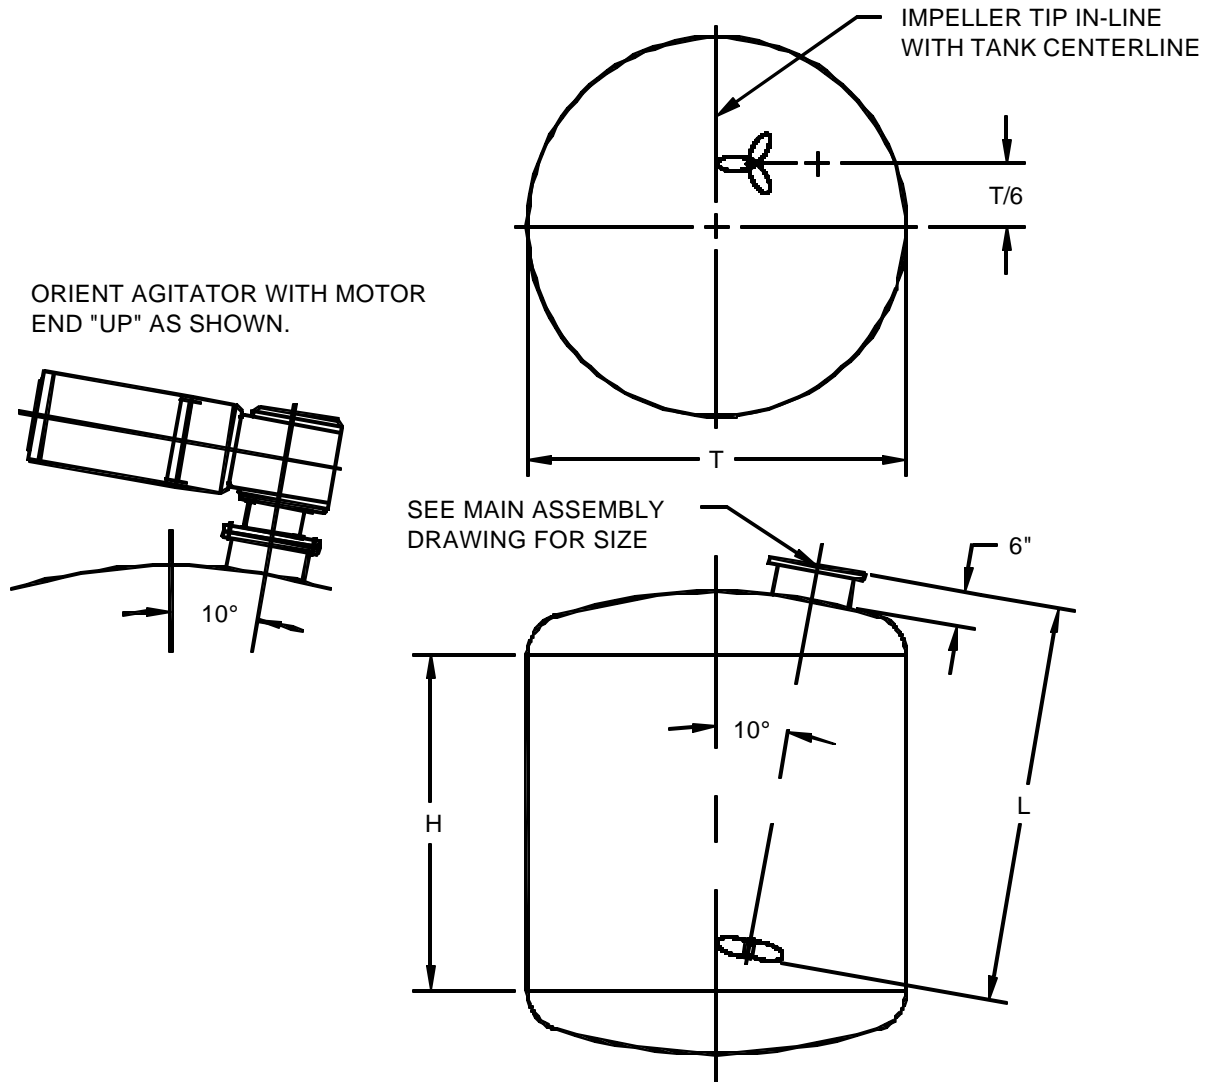

Figure 1: Angle Mount Installation
Special Case, Angle Mounted Units: The RBTN agitator may be angle mounted. Position unit as shown in *Figure 1* to properly provide optimum mixing results. Orient agitator as shown with motor end “up”. **CAUTION:** Angle mounted units must be supported vertically during shaft, seal and bearing installation.
4. Carefully lower the agitator assembly into the vessel. Properly align the agitator flange to vessel flange and install the flange to vessel hardware (customer supplied). If angle mounted, make sure the unit is properly oriented as shown in *Figure 1 on Page 3*. Torque bolts to the value shown in *Table 1, page 8*.
5. Carefully lower the agitator assembly into the vessel. Properly align the agitator flange to vessel flange and install the flange to vessel hardware (customer supplied). If angle mounted, make sure the unit is properly oriented as shown in *Figure 1 on Page 3*. Torque bolts to the value shown in *Table 1, page 8*.